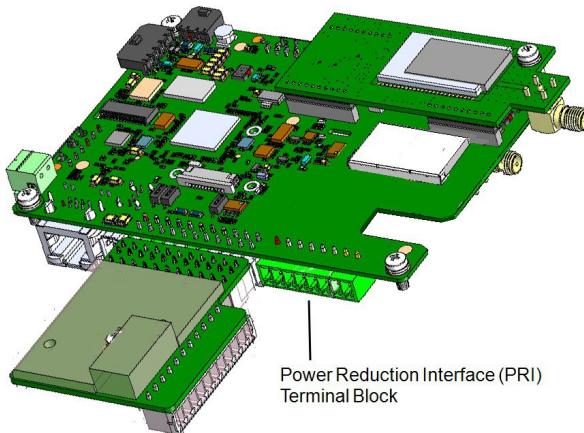

Figure 41: PRI Terminal Block Location on the Communication Board of the Inverter
3. Unscrew and remove the two Thumb Screws securing the Fan Assembly to the Synergy Unit (see *Figure 41*).
8. Turn ON(I) the ON/OFF/P Switch of the Synergy Manager.